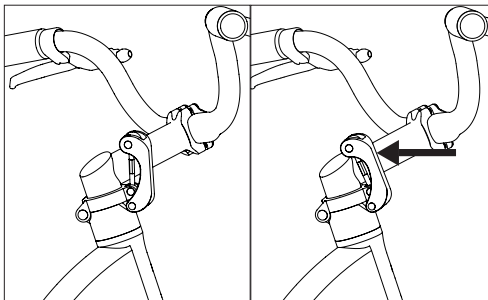

Fig. 42: Left: open position. Right: closed position
- The handlebar stem quick release lever. See Fig. 42.
2. Flip the stem quick release lever to the closed position, and push it tight against the stem. You should feel the lever snap into place, and hear an audible click. (Fig. 42).